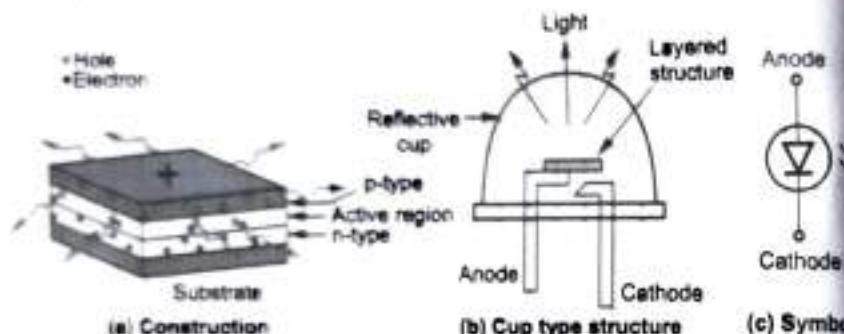

Fig. Q41.1 LED
- In LED three semiconductor layers on the substrate are used as shown in the Fig. Q41.1 (a).
- The LED emits light all the way around the layered structure. This layered structure is placed in a tiny reflective cup so that light gets reflected towards the desired exit direction. This cup type structure is shown in the Fig. Q41.1 (b).
- The symbol of the LED is shown in the Fig. Q41.1 (c).